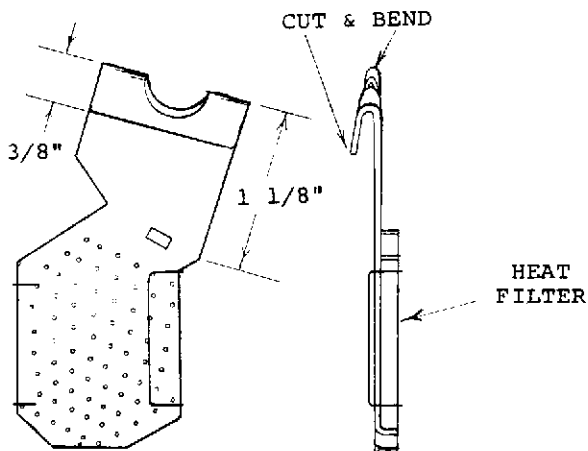

Figure 4-12. MODIFIED SAFETY SHUTTER (42994-G1)
- e. Modify a discarded 42994-G1 Safety Shutter as shown in (Figure 4-12). (A Similar heat filter may be used).